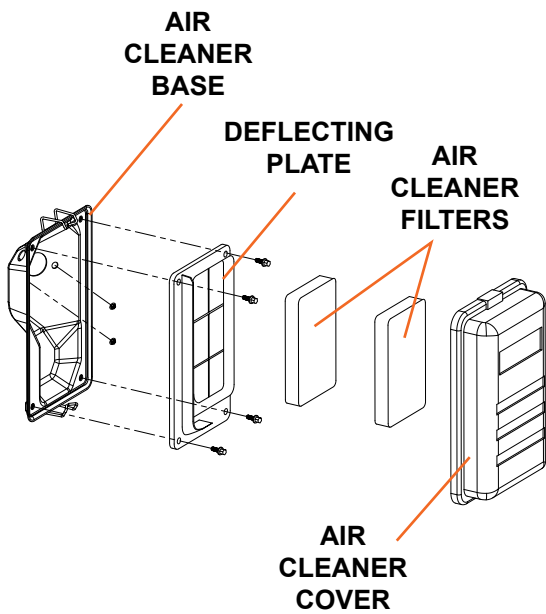

Figure 6
1. Wipe off the air cleaner cover. Loosen the clips that retain the air filter cover on the top and the bottom (see Figure 6).